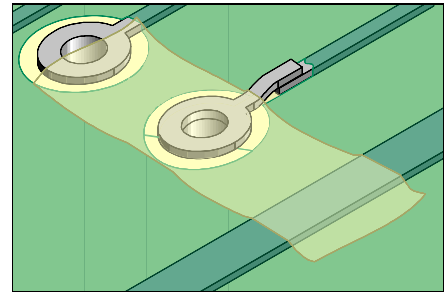

Figure 4: Place the new land in place using Kapton tape.
11. Place a piece of Kapton tape over the top surface of the land. Place the new land into position on the PC board surface using the tape to aid in alignment. (See Figure 4).